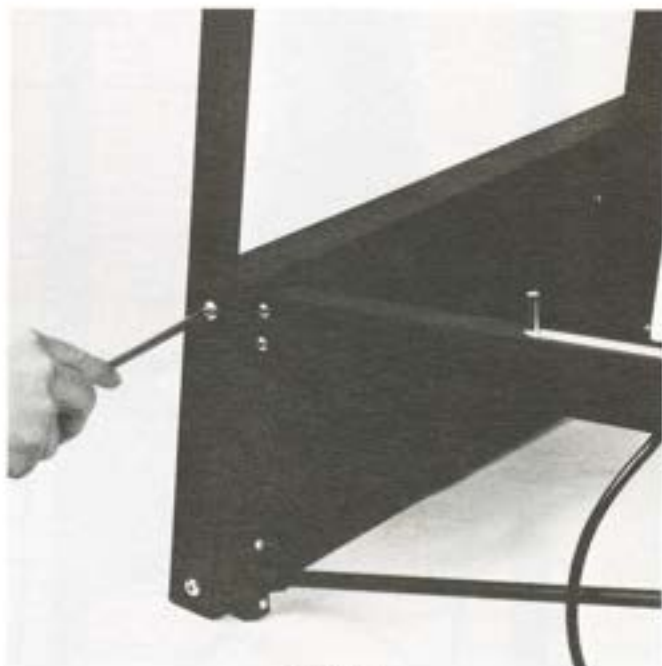

Figure 3
C. Using two pan head screws, attach the right baseboard angle to the enlarger base (see Fig. 3). Insert screws hand tight. Repeat the procedure on the left side.